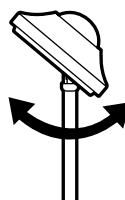

Fig. 8
4. To tilt lamp head toward you or away from you – simply move head to desired position (Fig. 8).